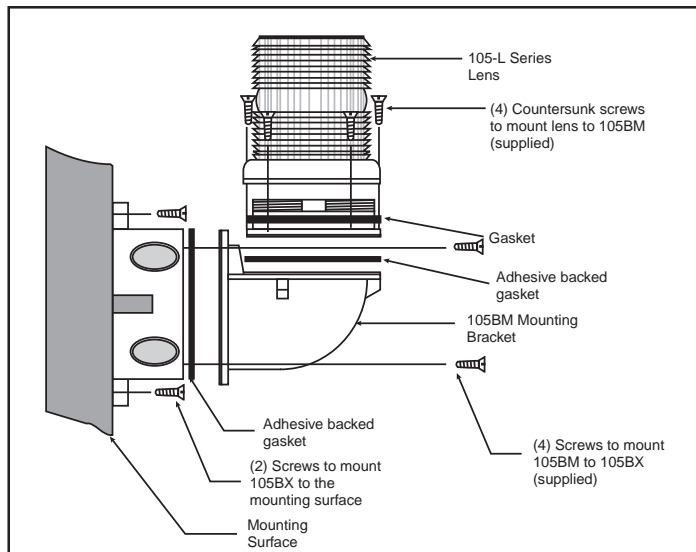

Figure 1. Mounting Cat. No. 105BM Mounting Bracket
NOTE: When mounting using the Cat. No. 105BM mounting bracket, the Cat. No. 105BX outlet box attachment must also be used as shown in Figure 1.
- Cat. No. 105BM:** Using the four supplied screws, secure the mounting bracket to Cat. No. 105BX outlet box attachment as shown in Figure 1. Attach the adhesive backed gasket to the top of the 105BM mounting bracket, being careful to line up the holes in the gasket with the mounting holes in the outlet box.